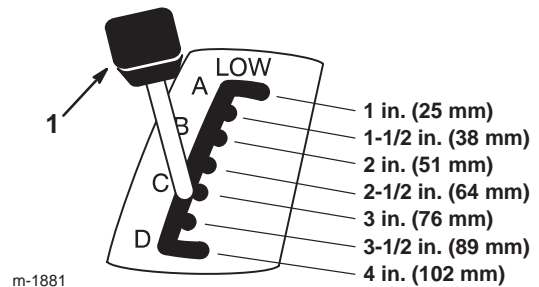

Figure 6
2. Pull on the height-of-cut lever and move it to the desired position (Fig. 6).